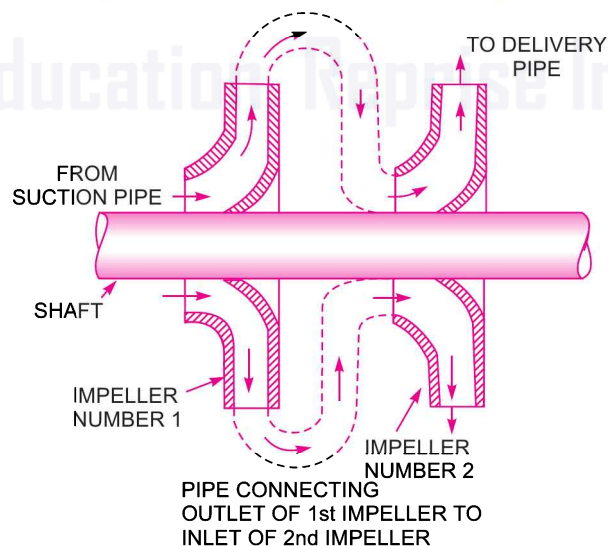

Fig. 19.12 Two-stage pumps with impellers in series.
**19.6.1 Multistage Centrifugal Pumps for High Heads.** For developing a high head, a number of impellers are mounted in series or on the same shaft as shown in Fig. 19.12.
The water from suction pipe enters the 1st impeller at inlet and is discharged at outlet with increased pressure. The water with increased pressure from the outlet of the 1st impeller is taken to the inlet of the 2nd impeller with the help of a connecting pipe as shown in Fig. 19.12. At the outlet of the 2nd impeller, the pressure of water will be more than the pressure of water at the outlet of the 1st impeller. Thus if more impellers are mounted on the same shaft, the pressure at the outlet will be increased further.